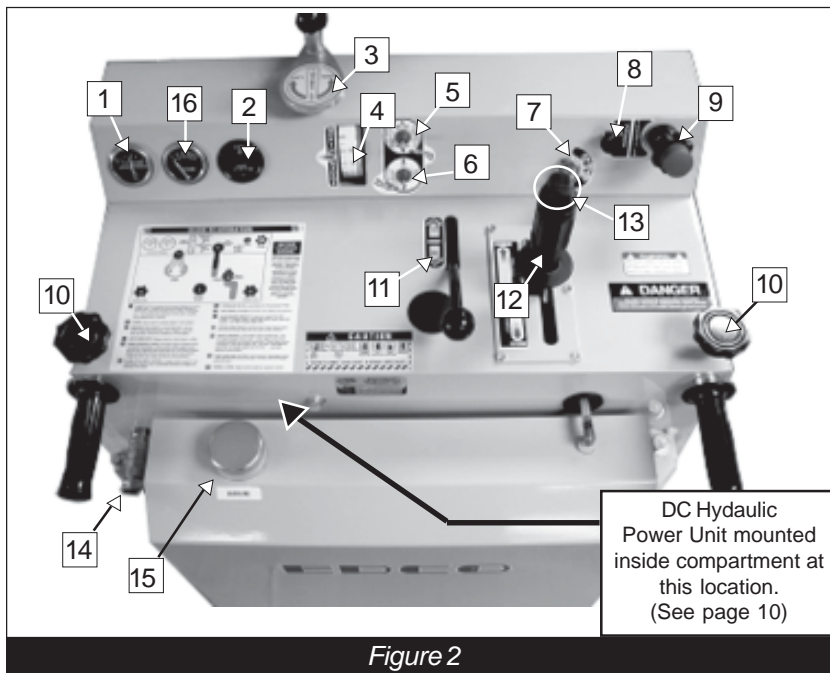

Figure 2
- Locate and be familiar with all engine and saw controls (*Figures 2, 3, 4 & 5*).
- Verify the Drive Control lever is in the Neutral (center) position. (*Figures 2 & 3*)